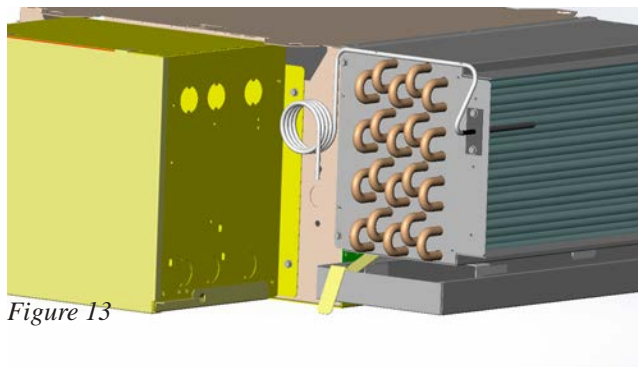

Figure 13
The Discharge Air Sensor is fitted to the side of the coil flange in the holes provided for this accessory. (See Figure 13.)
- b. Mount the Discharge Air Sensor with two screws as shown. (See Figure 13.)